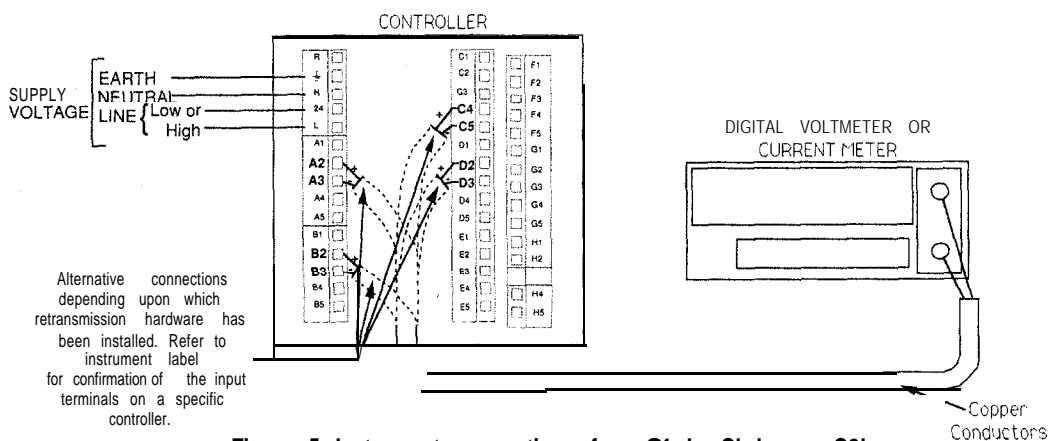

Figure 5 Instrument connections for C1 L, C1 h or C2L, C2h or C3L, C3h or roL, roh calibration procedure.
- 8) Connect the instrument and meter together as in Figure 5.